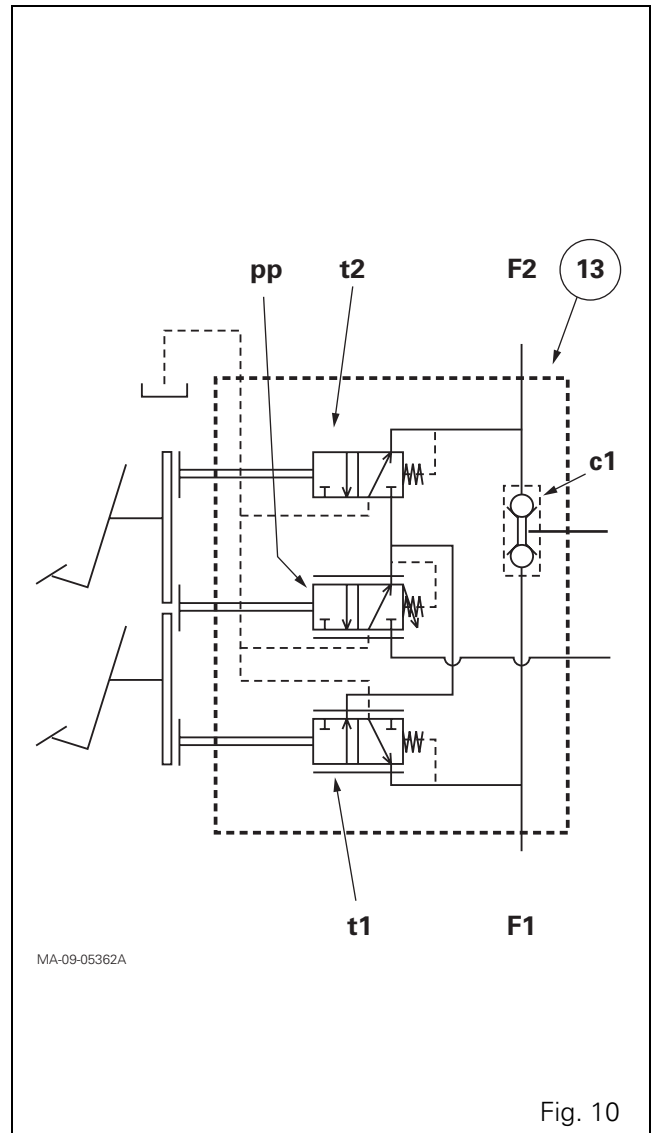

Fig. 10
The diagram (Fig. 10) of the block/valve assembly (13) provides a symbolic representation of the hydraulic layout of the following main components: